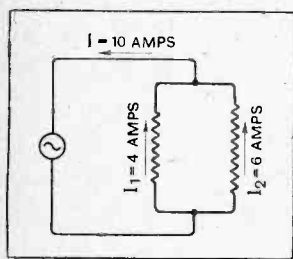

Fig. 3.—Two resistances in parallel take currents which are in phase with one another. In this case $I = I_1 + I_2$.
LET us first consider two alternating currents which are exactly in phase or in step with each other, such as the currents taken by two non-inductive resistances connected in parallel across a source of alternating voltage, as shown in Fig. 3. To simplify
Fig. 4.—Sine curves in phase representing the currents of Fig. 3. The dotted curve is the sum of curves (1) and (2) found by adding instantaneous values. For any point on the base-line $ad = ac + ab$.
Fig. 5.—Vectors representing the currents of Fig. 3. When the currents are in phase the vectors coincide with each other. When drawn to scale $OI = OI_1 + OI_2$.